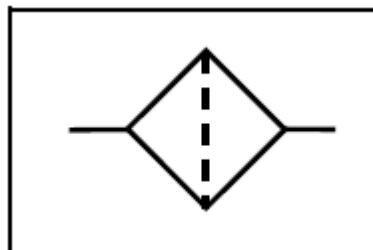

FIGURE 4.14
4.14 Identify the symbol, shown in FIGURE 4.14 below, which relates to a pneumatic system.